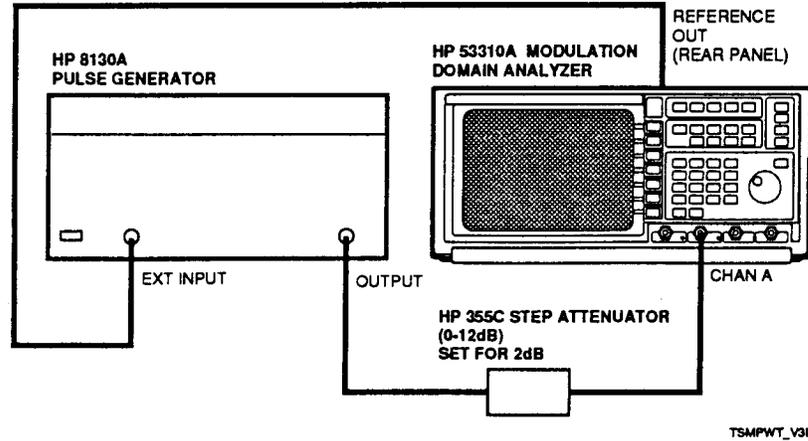

Figure 2-8. Setup for Minimum Pulse Width Tests for Channel A and B
- 1 Connect the HP 53310A to the HP 8130A (source) as shown in *Figure 2-8*.